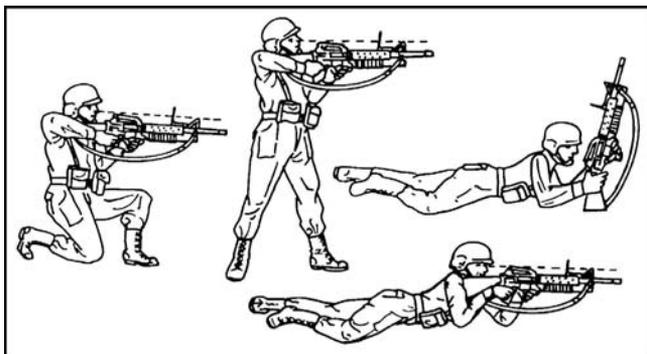

Figure 071-311-2130-3. Firing positions
7. Select and assume an appropriate firing position (figure 071-311-2130-3).